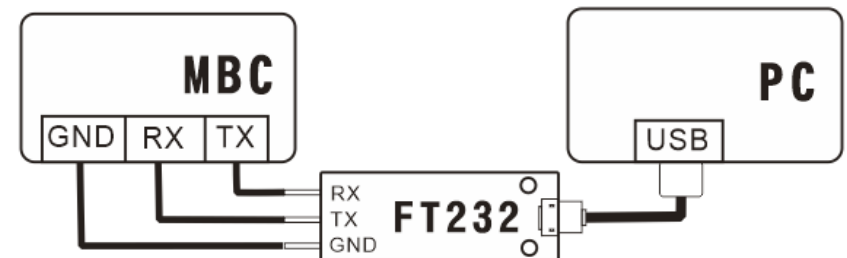

Figure 6. UART Connection
2. Use UART accessories to connect the controller to PC as shown in Figure6.